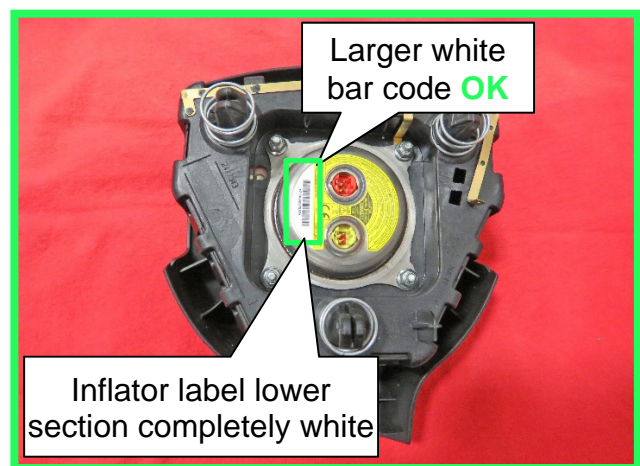

Figure 4
- If the inflator label lower bar code section is completely white as shown in Figure 4, inflator replacement is NOT required.